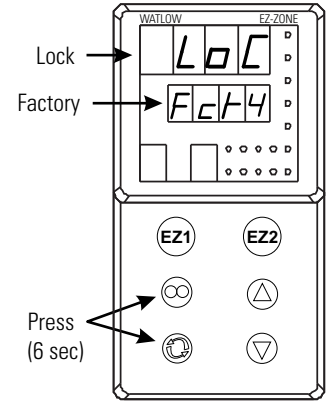

Figure 4-1. Displays
2. Press the Up Arrow until “LoC” (lock) appears in the upper display. The word “Fcty” will remain in the lower display (Figure 4-1).